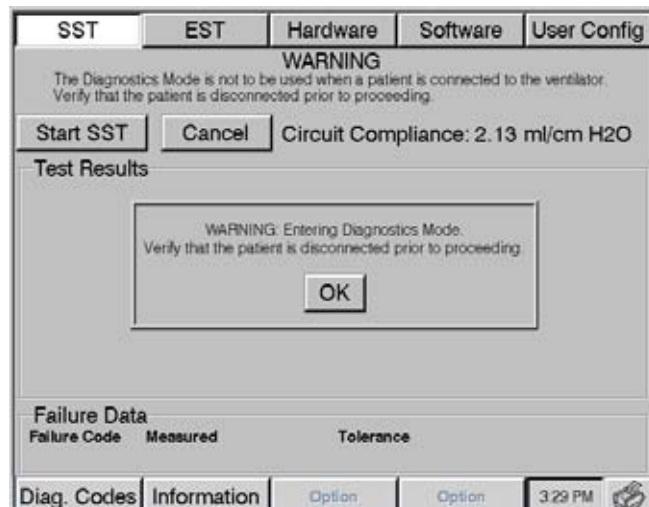

Figure 8-36: Entering Diagnostic Mode
5. Hold down the ALARM RESET and 100% O₂ keys while the ventilator is powered up. The operator must confirm that the machine should be in Diagnostic Mode (Figure 8-36).